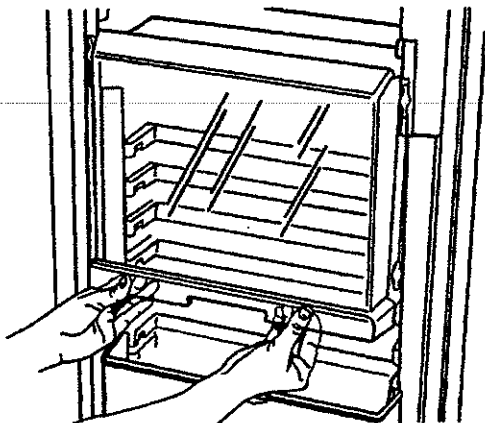

Figure 43
- h. To remove beverage chiller door, remove chiller bucket. Slide door down and out through bottom of door track. See Figure 43.